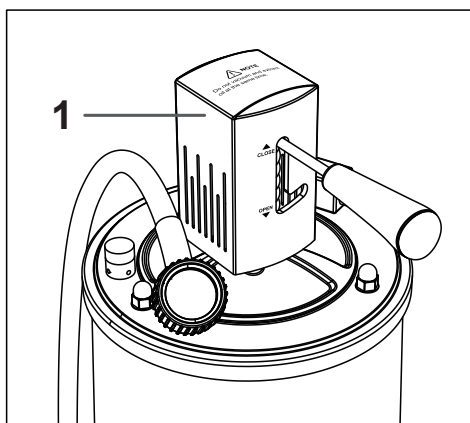

Figure 1
- Close the measuring cup drain valve 1 (Figure 1).